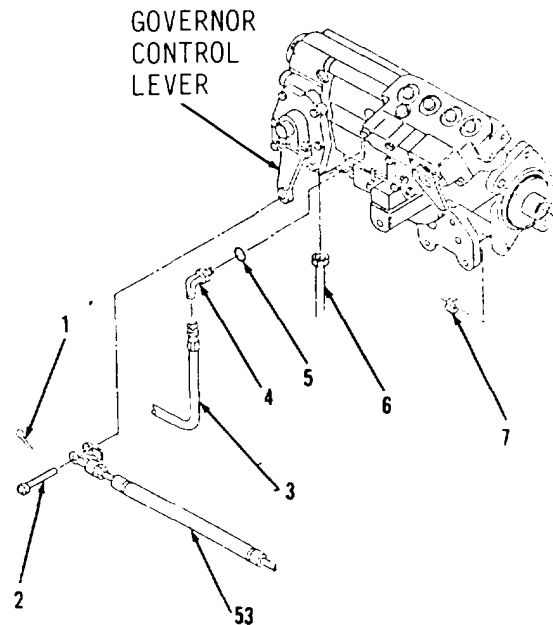

Figure 3-84.
1. Remove cotter pin (1) and pin (2, Figure 3-84) from right side of engine. Discard cotter pin (1).
2. Disconnect linkage assembly (53) from fuel injection pump and governor control lever. Move linkage assembly (53) out of the way.